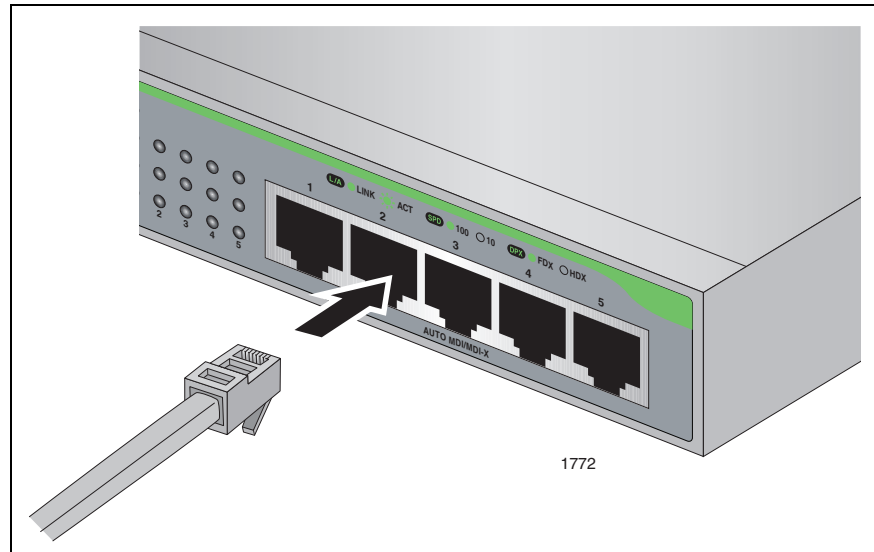

Figure 6. Connecting the AT-FS705L Twisted Pair Data Cables
1. Connect the twisted pair data cables to the RJ-45 ports on the switch, as shown in Figure 6.